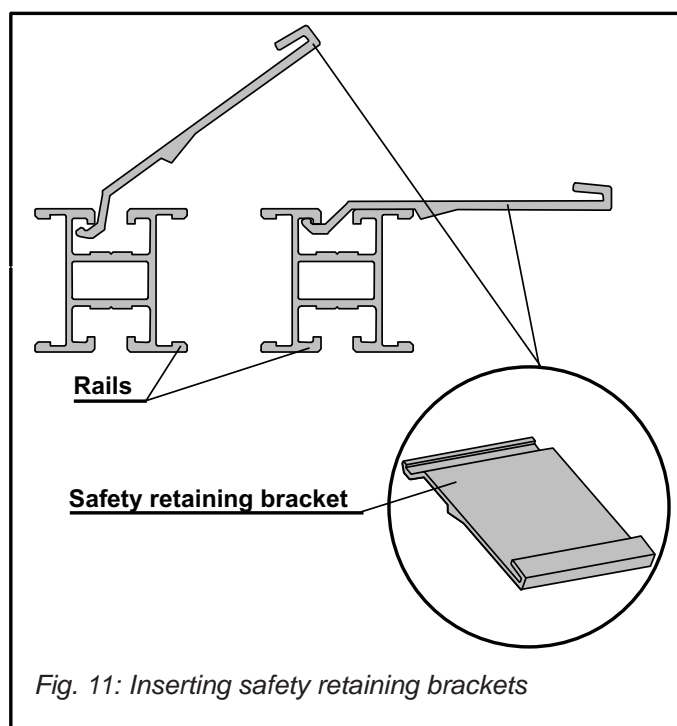

Fig. 11: Inserting safety retaining brackets
- Insert safety retaining brackets (Fig. 11) into the bottom rail, 2 brackets per collector.